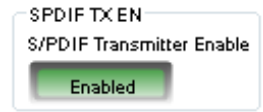

Figure 38. Activating the **SPDIF\_TX\_EN** Register
- d. To activate the S/PDIF interface, click **Disabled** in the **SPDIF TX EN** box. When this button is clicked, the text displayed on the button changes to **Enabled** and the button color changes from red to green (see Figure 38).